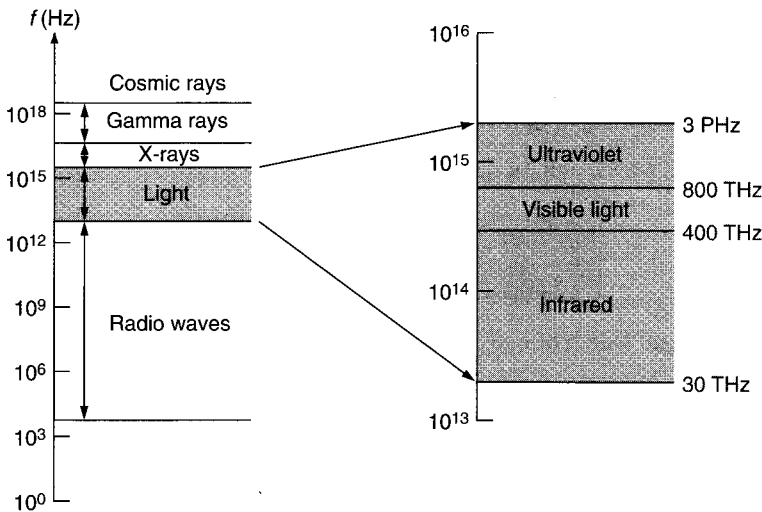

FIGURE 20.38 The light spectrum.
**Light** is *electromagnetic energy* that falls within a specific range of frequencies, as shown in Figure 20.38. The entire light spectrum falls within the range of 30 THz to 3 PHz and is further broken down as shown in Table 20.2.